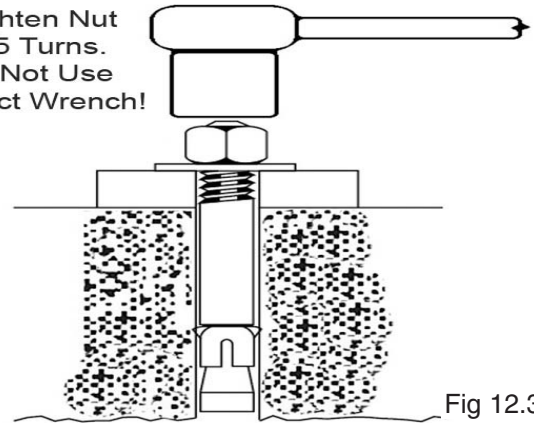

Fig 12.3
5. With the shims and Anchor Bolts in place, tighten nut three to five turns past finger tight. DO NOT use an impact wrench for this procedure. (See Fig. 12.3)